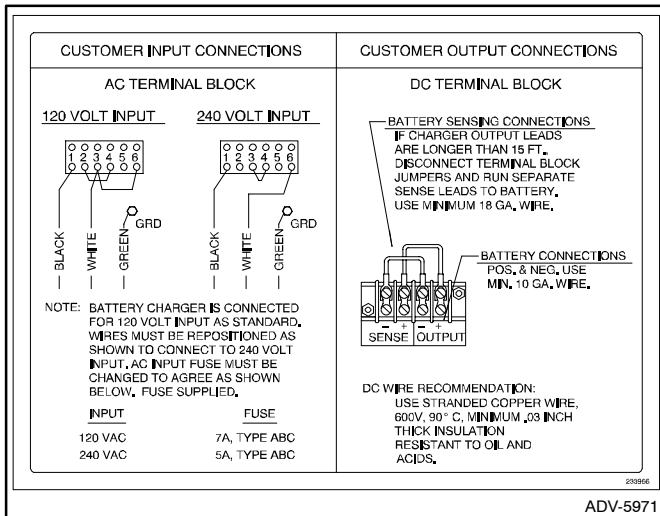

Figure 2 AC Customer Input Connections and DC Customer Output Connections
1.2 Because of the variety of generator installations, battery cables are not provided. To make battery connections, cut red (+) 10-gauge stranded wire to desired length and strip insulation from both ends. To one end of wire attach a post-type connector. Route other end of battery cable through the knockout in the bottom of the battery charger and connect to output positive (+) terminal on charger DC terminal block. See Figure 2. Tighten terminal block lock screw to secure battery cable.
If battery charger output leads are longer than 4.6 m (15 ft.), disconnect DC terminal block jumpers and run separate battery-sensing leads to battery. Connect red 18-gauge (minimum) wire to positive (+) sensing terminal and black 18-gauge minimum wire to negative (-) sensing terminal. See Figure 2 for terminal identification.
2.1 Battery chargers are factory-connected for 120-volt AC input. If using 120-volt AC input, connect to AC terminal block as shown in Figure 2. If using 240-volt AC input, remove the two AC terminal block jumpers and reconnect across terminals 3 and 4. Connect AC input as shown in customer input connections. See Figure 2 for AC input connections.